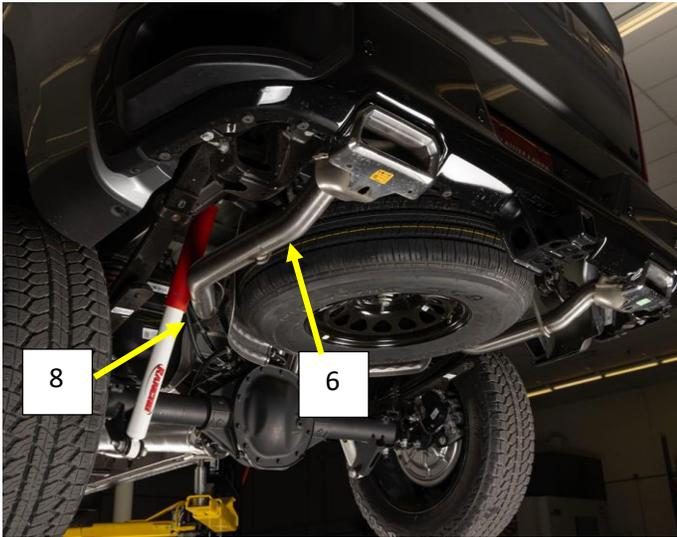

Figure.18
22. Install the Left Rear tail pipe (6) on to the Left front tail pipe (4) and tighten the clamp to allow for adjustment. **Fig.18**